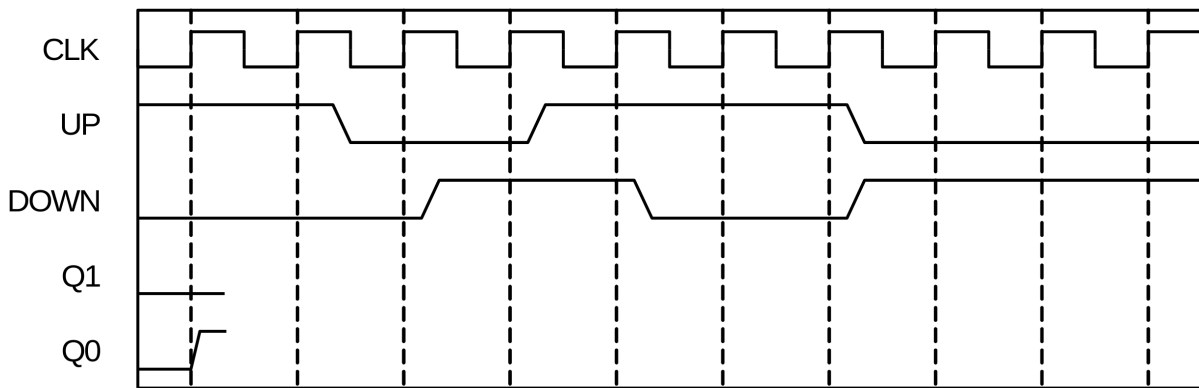

Figure 3: Sketch the prediction accuracy counter
- (a) Draw a state diagram of this machine. Let the initial state be  $Q(0) = (00)_2$ .
- (c) Sketch the timing diagram shown below in Fig. 3.